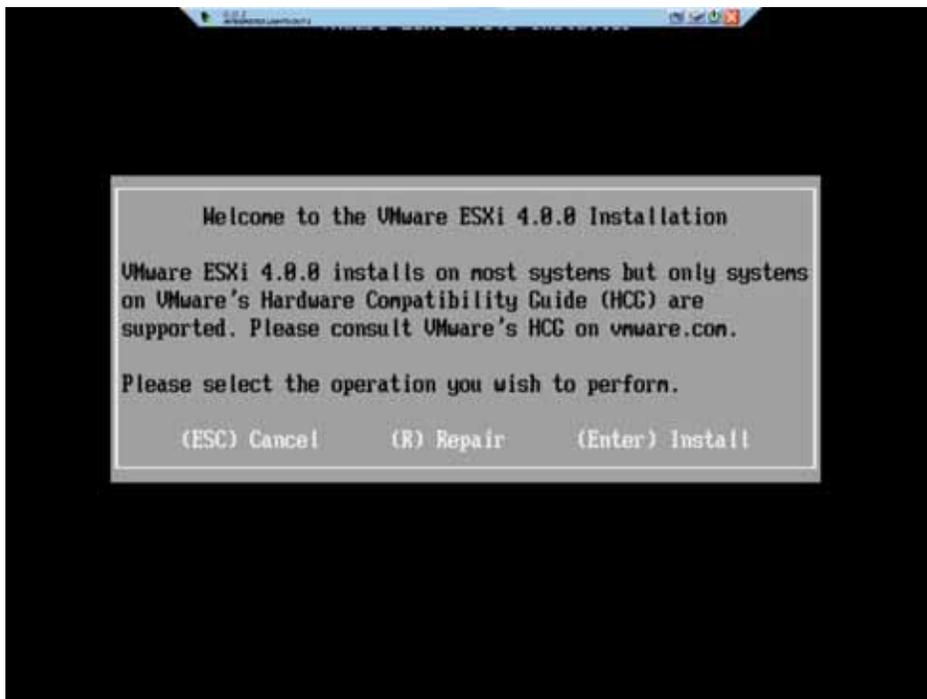

Figure 4 ESXi 4.1 Installer
- Step 4** Accept (or Decline) the license agreement as needed. To continue the installation procedure, accept the license agreement and start the ESXi 4.1 installer. Figure 4 on page 148 shows the ESXi 4.1 installer.